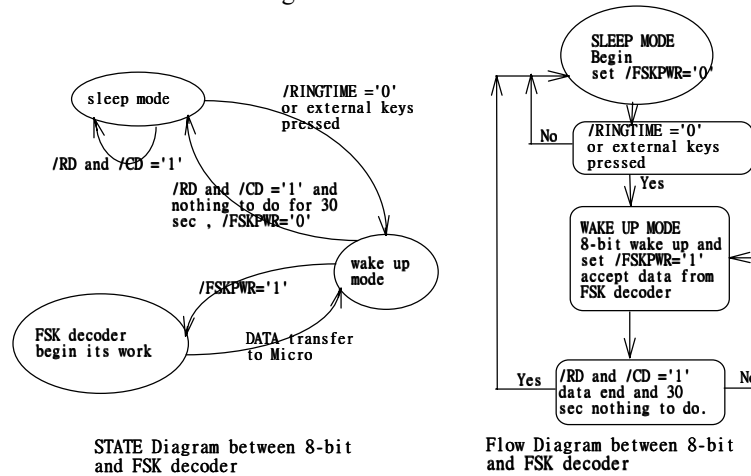

Fig.5 The relation between Bit0 to Bit3.
- * See the configuration of the data memory in Fig. 5.
- * The relation between Bit0 to Bit3 is shown in Fig.5